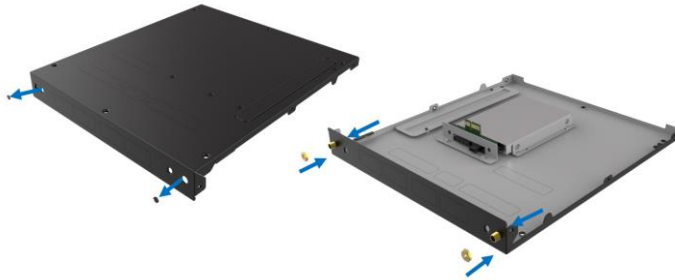

Figure 3-7: Install External Antenna Connector
- Step 1:** [Optional] Install an external antenna if necessary. You need to remove the knockouts first, and then install the antenna connectors into the knockout holes (Figure 3-7).